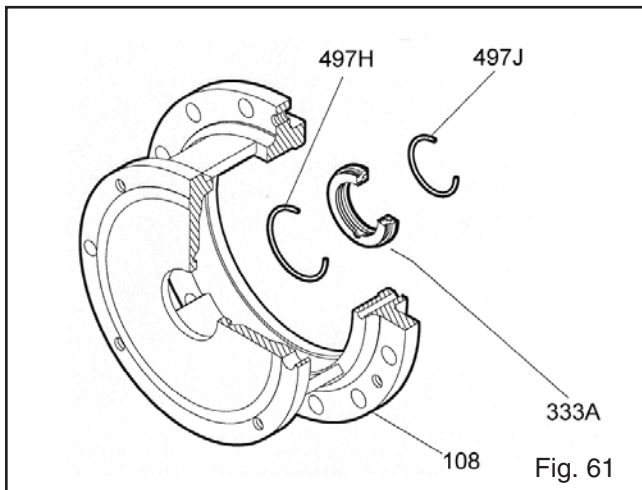

Fig. 61
1. It is an O-ring fit into the bearing frame (228A) for STX, frame adapter (108) for MTX, LTX, XLT-X and X17. Remove O-rings (497H), (497J) if necessary (Fig. 61).